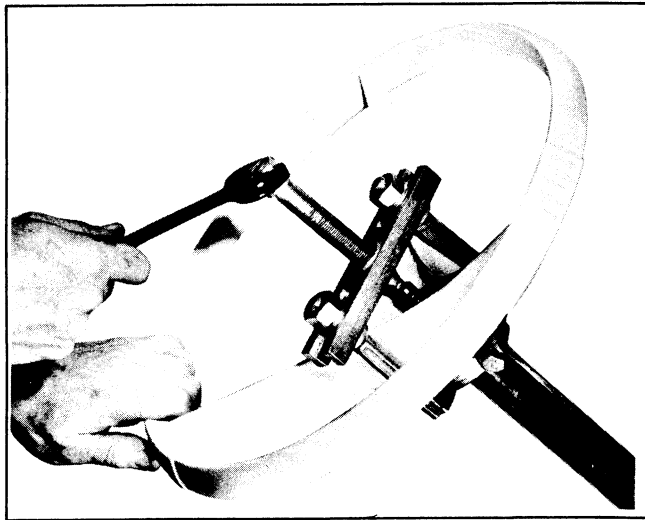

Figure 2-43. Pulling Steering Wheel
Pry cap (1) from steering wheel and loosen nut (2) until flush with end of threads on shaft. Use claw puller, Part No. 97292-61 and wedge attachment, Part No. 95637-46 with a cap, Part No. 95652-43A (or equivalent) to protect threads as follows. Install wedge underneath steering wheel (3) hub - cup (4) can be depressed to gain clearance. Install jaws of puller behind wedge and turn screw against protective cap on shaft to pull wheel from splines (see Figure 2-43). Disassemble nut (2), steering wheel (3), cup (4), spring (5) or spacer (5A) and bushing (6) from steering column (7).